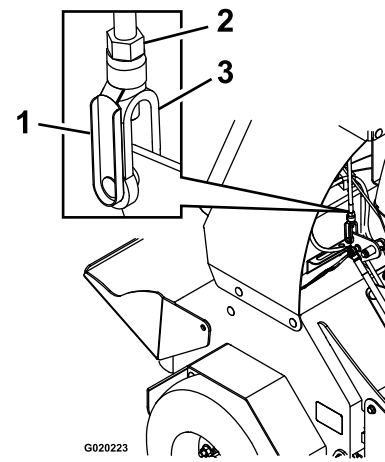

Figure 62
- B. Remove the spring-clevis pin from the fork fitting of the traction-control linkage (Figure 62).
- If the control lever **contacts the reference bar**, rotate the fork fitting (Figure 62) counterclockwise (as viewed from the top of the machine).
- If the control lever **does not contacts the reference bar**, rotate the fork fitting (Figure 62) counterclockwise.
- D. Install the spring clevis pin (Figure 62) and move the control lever forward.
- F. Remove the spring-clevis pin, rotate the turnbuckle clockwise 1 additional turn, and insert the spring-clevis pin (Figure 62).